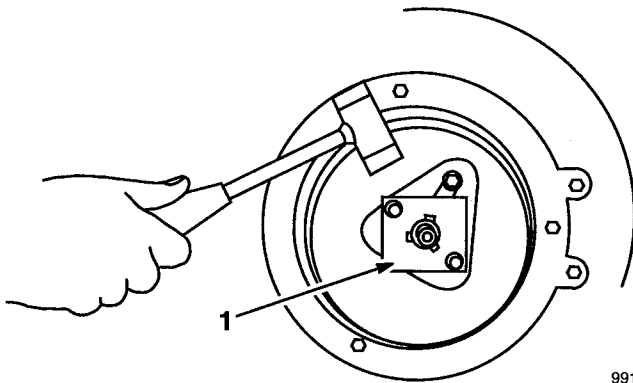

Figure 32
3. Remove blade driver by tapping with plastic or fiber hammer in the direction of rotation (Fig. 32). This will loosen the blade driver from taper on crankshaft.